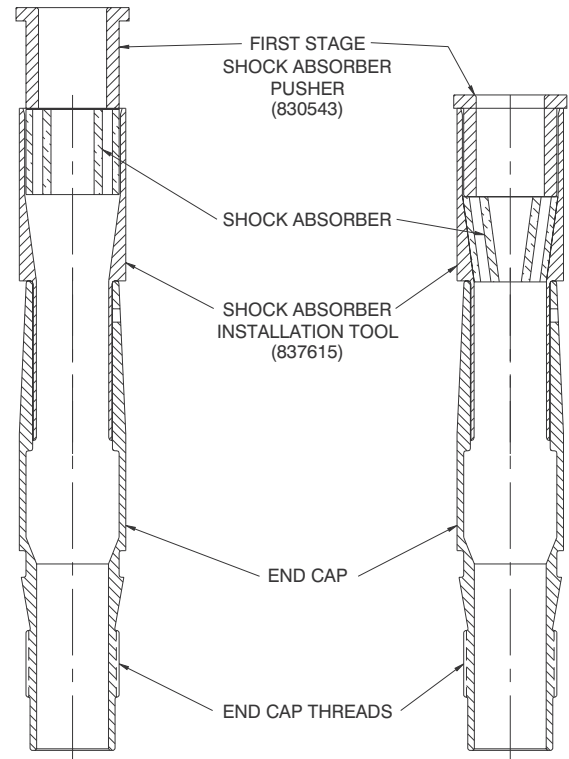

Figure 9-12. Compress Shock Absorber in Installation Tool
3. Center the First Stage Shock Absorber Pusher Tool, 830543, over the Shock Absorber as shown in Figure 9-12-A.
4. Compress the Shock Absorber in Installation Tool 837615 as shown in Figure 9-12-B.
14. Use a 1/2-inch open-end wrench across the flats of the Valve Stem (11) to hold it in place. See Figure 9-12.
15. Use a 7/8-inch wrench to tighten the Elastic Stop Nut (3) onto the Valve Stem (11). See Figure 9-12.